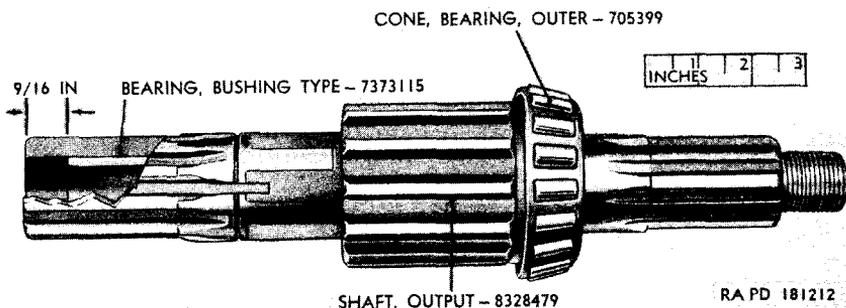
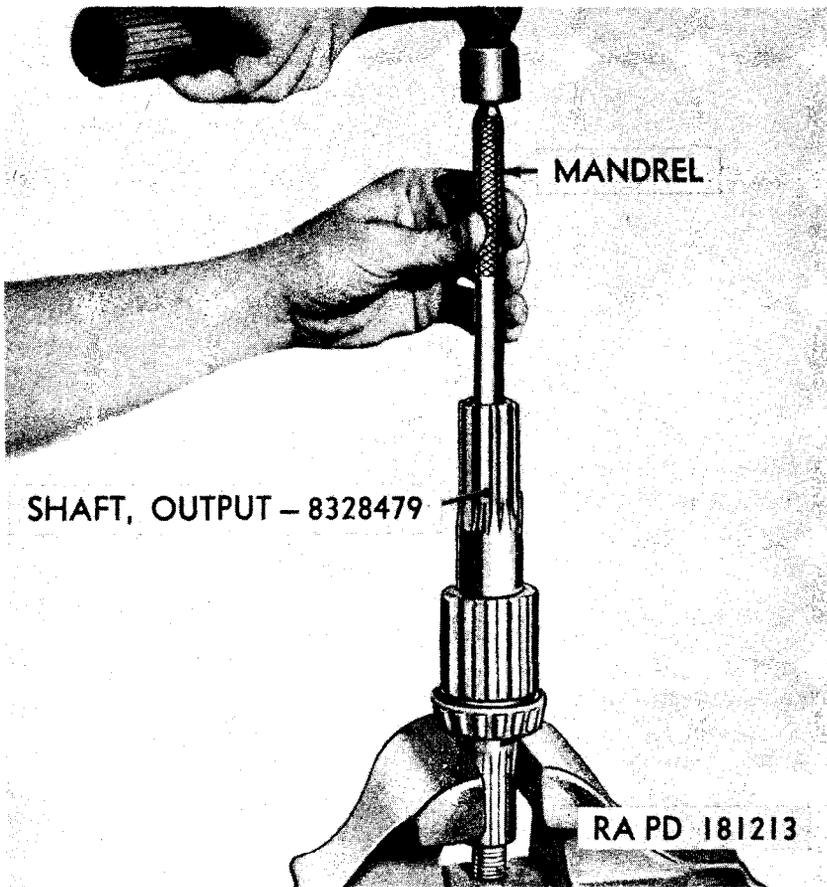

Figure 76. Bushing type pilot bearing installed in transfer rear axle output shaft.
Figure 77. Seating bushing type pilot bearing in transfer rear axle output shaft.
a. The transfer rear axle output shaft assembly requires no disassembly except the removal of the front axle output shaft bushing type pilot bearing (JJ) which provides the support for the front axle output shaft.
b. Remove the bushing type pilot bearing (fig. 76) from the rear axle output shaft only if it does not meet the inspection requirements (par. 127a).
a. No assembly of the rear axle output shaft is required except the installation of the front axle output shaft bushing type pilot bearing (JJ), if it has been removed.
b. If the bushing type pilot bearing is to be installed, place rear axle output shaft in a vise (use jaw protectors) with the pilot end up. Place a new bearing in pilot end of shaft. Using a suitable mandrel ($\frac{1}{8} \times \frac{3}{4}$), seat the bearing (fig. 77) until top of bearing is nine-sixteenths of an inch from top of bore in the rear axle output shaft (fig. 76).